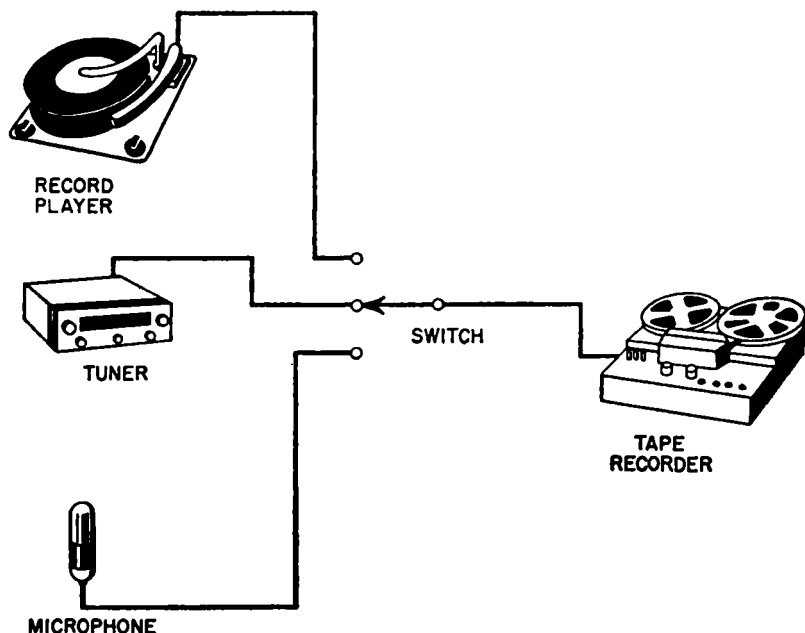

Fig. 6-11. Switch arrangement to permit use of tape recorder with several program sources.
*Adding a tape recorder to your high fidelity system.* The addition of a good quality standard three-head recorder to an existing music system presents no particular problem. While installation techniques will depend upon the particular make or model you buy, in all cases the manufacturer will supply complete instructions. To permit recording from all of the various program sources, a switching arrangement is needed. The switch unit will consist of a standard wafer-type rotary switch, available from all electronic supply houses, and an input jack for each of the program sources. Figure 6-11 illustrates such a switching arrangement. Remember that shielded cable must be used for all connections between the program sources and the switch and between the switch and the tape recorder. The length of cable must be no more than two or three feet, otherwise here is a possibility of hum pickup. Radio and electronic suppliers sell jumper cables in various lengths and they are inexpensive. However, if you prefer to make up your own, you may use the instructions given in Chapter 9.
The switching arrangement described above and illustrated in Figure 6-11 will not be needed if you have a modern preamplifier of the control center type. Such preamplifiers generally have input jacks for tuner, magnetic and crystal cartridges, microphone, and, frequently, one or two spare jacks for other program sources. Some have, in addition, a jack for the tape recorder input. A preamplifier of this type has a selector switch for changing from one program